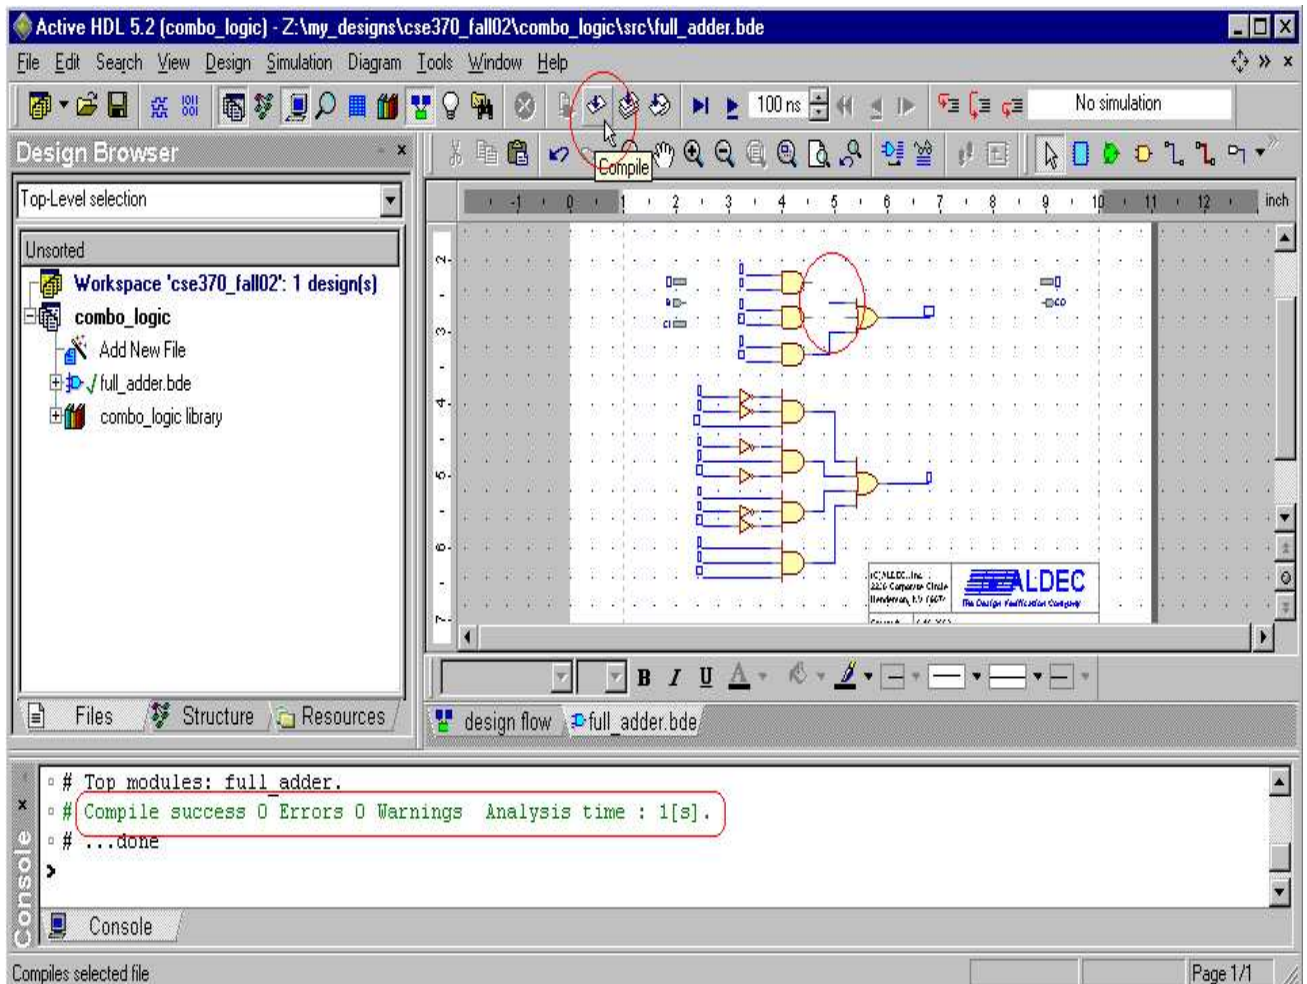

Figure 26
3. After you have checked your diagram and resolved any errors or warnings, click the Compile icon in the Standard toolbar (Figure 26). See the DRC Report (immediately following this section) and the debugging section, which follows the Simulation section, for examples on how to locate and debug errors in your design. The Console window will display the results of the compilation. When compiling a schematic, the console will generally compile successfully even if there are gates and/or terminals that are not connected (in some cases, warnings will be issued for unconnected ports). Therefore, just because a schematic compiles does not mean that it will do what you intended it to do during simulations. This is the reason you need to check your diagram prior to compiling. Figure 26 shows a successful compilation even though there are terminals and ports unconnected.